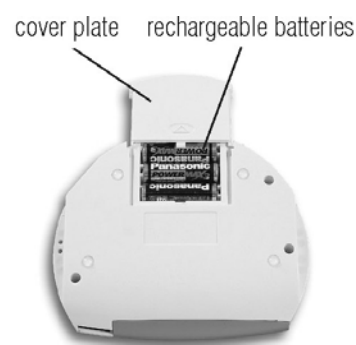

Figure 3. Installation of the batteries
- Remove the Reader Unit from its docked position, find its battery holder on the bottom and remove the cover-plate and load the batteries (included) as shown on figure 3. Reconnect the Reader Unit to its docked position.